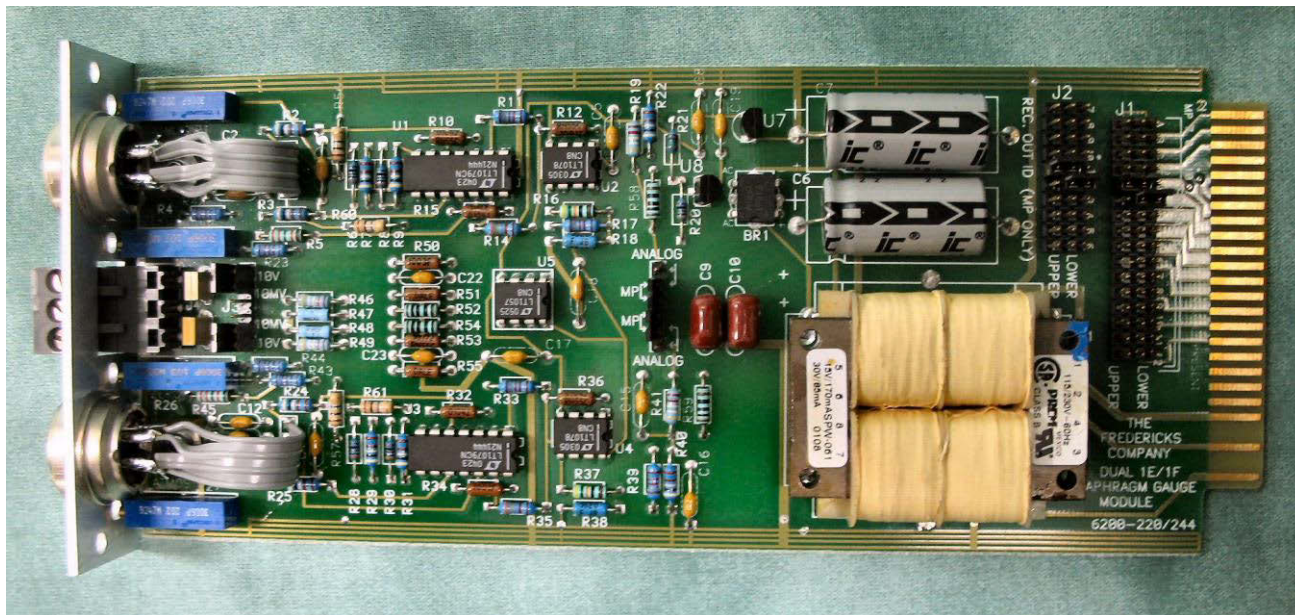

Fig. 9.5a - Diaphragm Module
DIAPHRAGM MODULES- Diaphragm modules are shown in Fig. 9.5a and 9.5b. This module is typical of all modules. The assignment of station identification numbers on a diaphragm module is accomplished by placing jumpers across the appropriate pins in the SIGNAL ID and the REC OUT ID sections. The upper diaphragm station has been named station #3 and the lower thermocouple station has been named station #4 as an example. Do not duplicate station # assignments with other modules. Also two (2) jumpers are placed in the "MP" positions of the ANALOG/MP section of the board.